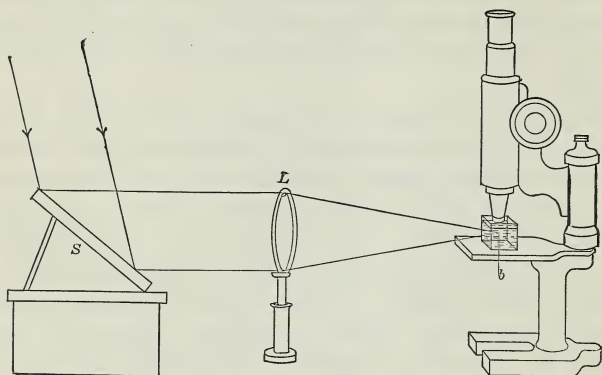

Fig. 56. A simple form of ultra-microscope.
82. Colloidal solutions. Let us consider the properties of a liquid through which a powder of *gold* is disseminated. When the particles of gold are fairly large—4 microns in diameter or thereabouts, the turbid liquid is a true suspension, which soon settles, and under the microscope no vibratory movement of the particles can be perceived. But when the particles are very small—about 0.01 micron in diameter—the gold does not settle even if the preparation is kept for years. The liquid is red in color and is quite clear both to the naked eye and under the microscope. Particles so small are beyond the power of the microscope and must be sought for with the *ultra-microscope*, a simple form of which is shown in Figure 56. A beam